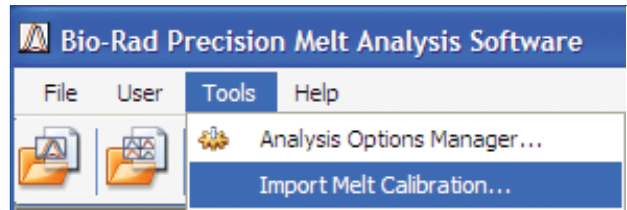

Fig. 6. Import Melt Calibration file.
2. Click **Tools > Import Melt Calibration** from the Menu bar (Figure 6).